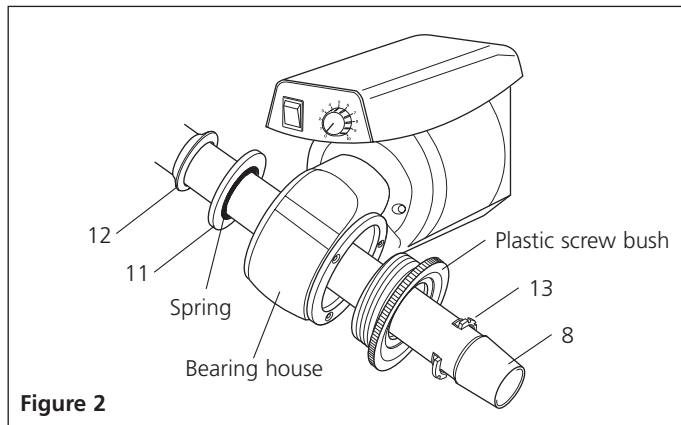

Figure 2
3. Pass the plain end of the vapour tube (8) through the right side of the motor assembly and push into position until it locates firmly behind the spring clip. The conical joint should be to the right of the motor when viewed from the front.
4. Place the main vacuum seal (11) and sub-seal (12) onto the plain end of the vapour tube (left) and slide them down until they locate in the bearing housing. It is important that these elements are fitted in the correct order and that the spring loaded side of the main seal faces the bearing housing (see fig.2).
5. Place the retaining clip (13) on the jointed side of the vapour tube (right) and slide until it clips in the plastic screw bush (fig 2).